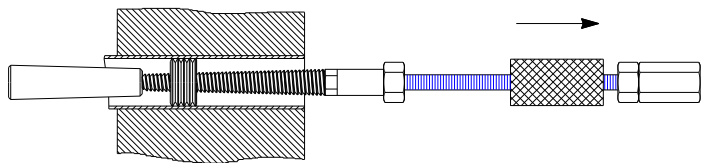
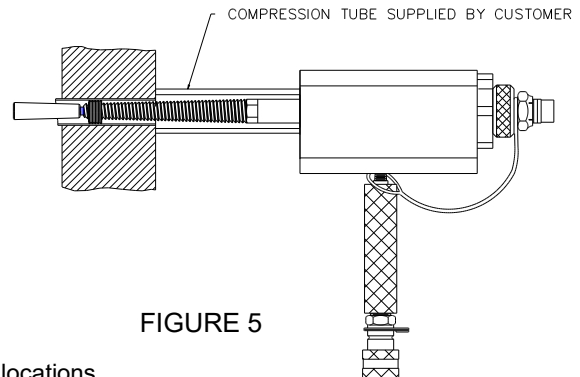

FIGURE 4
FIGURE 5
4. Thread spear into ring using 3/4" hex cap on rod end (about 4-6 turns). Use slide hammer to remove ring (Figure 4) or use hydraulic ram as shown below. (Figure 5)
5. Choose the appropriately sized spear (See Table) and thread spear into ring using 3/4" hex cap on rod end (about 4-6 turns). Use slide hammer to remove ring (Figure 4) or use ram as shown below. (Figure 5)